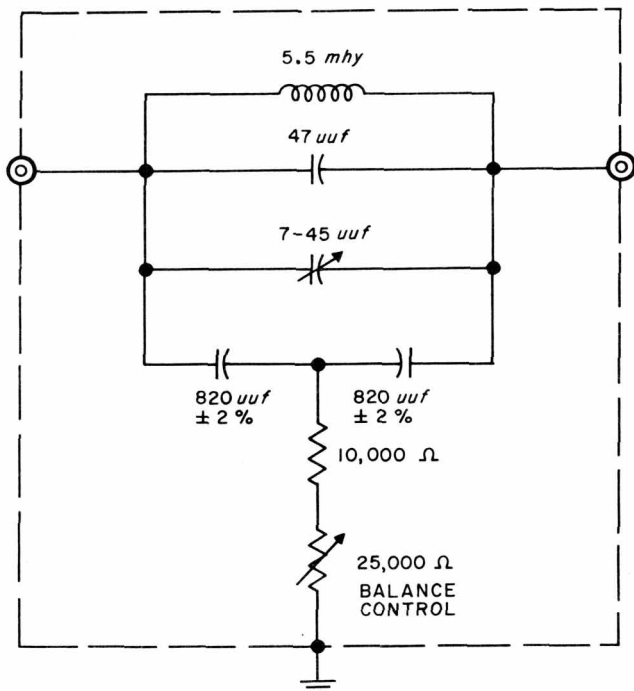
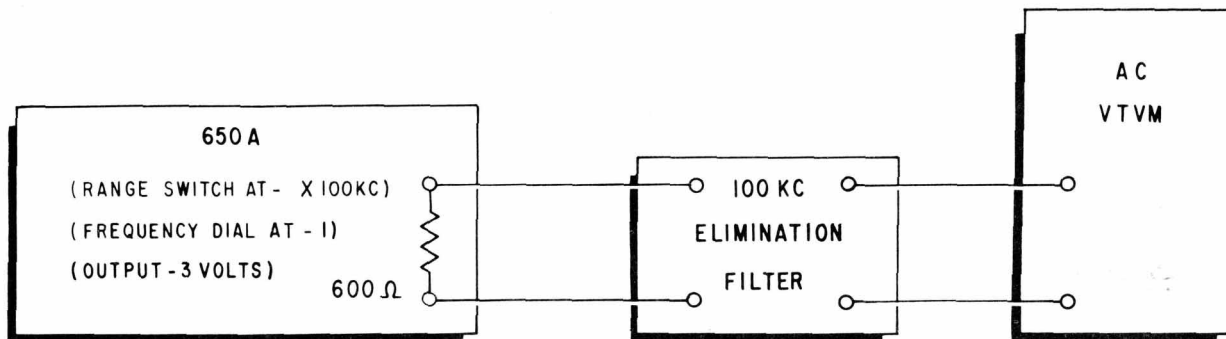

Figure 4-2. 100 KC Filter
Figure 4-4. Equipment for High Frequency Distortion Measurement
- g. Elimination filter for 100 KC as shown in Figure 4-2. Any coil and capacitor combination can be used that will resonate at 100 KC. If a different inductor is used, the value of the balance control and series resistor will have to be changed. The inductor shown in Figure 4-2 can be obtained under -hp- Stock No. 48-3.
- d. Connect 100 KC filter shown in Figure 4-2 across output terminals and an external ac meter across filter output terminals. The meter used must be capable of accurately measuring frequencies that are harmonics of 100 KC. See block diagram given in Figure 4-4.